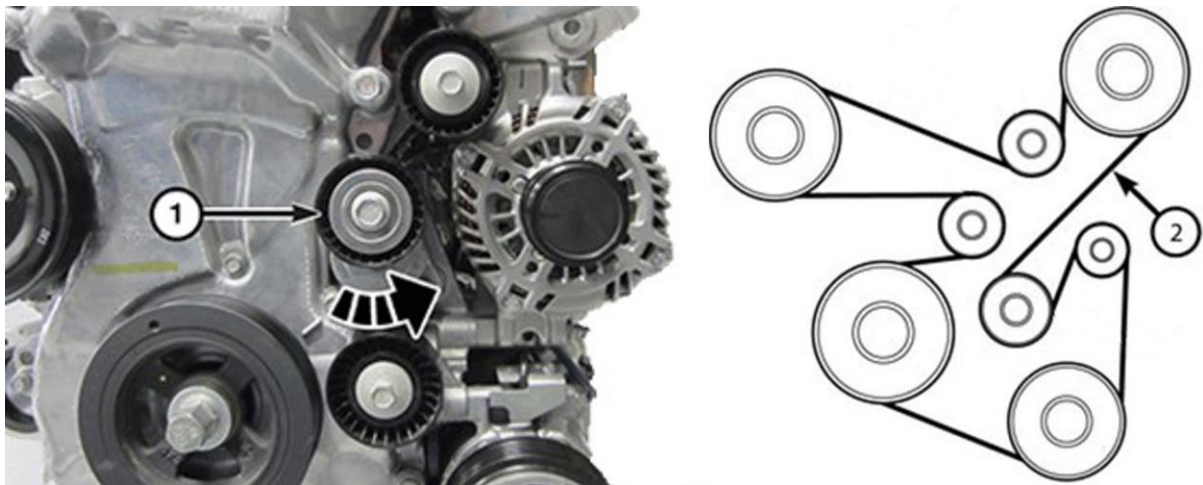

Figure 10 – Accessory Belt
17. **(VM) Ram ProMaster City Only:** Decrease the belt tension by rotating the center bolt of the tensioner pulley (1) counterclockwise, lift the belt (2) off one of the pulleys and reposition the accessory drive belt then slowly release the tensioner to the fully extended position (Figure 10).
45. **(VM) Ram ProMaster City Only:** Install the accessory drive belt (2) by positioning the belt over all of the pulleys with the exception of the tensioner pulley (1) (Figure 10).
46. **(VM) Ram ProMaster City Only:** Rotate the center bolt of the tensioner pulley (1) counterclockwise, install the accessory drive belt (2) on the tensioner pulley (1) and slowly release the tensioner (Figure 10). Visually inspect the belt to pulley alignment.